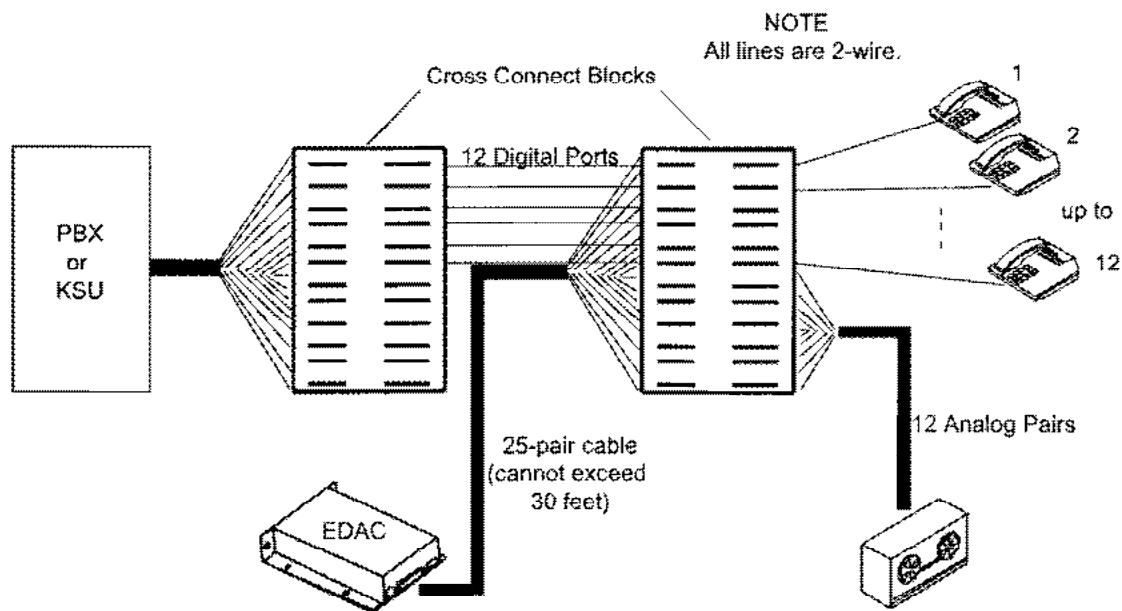

Figure 19. Typical Cross Connection Diagram for One Base Unit with 12 Port Cards
2. Using Table 17 and Figure 19 as guides, cross connect the required quantity of EDAC digital input pairs in parallel with the digital telephones to be monitored. The EDAC digital input is not polarity sensitive, so “Tip to Tip” or “Tip to Ring” can be connected. Up to 12 digital telephones may be connected to the 25-pair connector if relay cards are not used or up to eight per connector if relay cards are required.